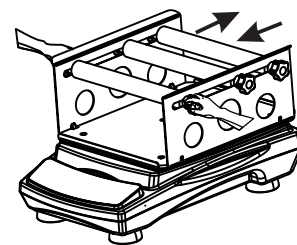

figure 8
3. Install wheel and fixed handle. Do not fasten the screw to make sure the wheel can move back and forth along the waist-shaped long hole on Universal Platform with Adjustable Bars as shown in the figure 8.